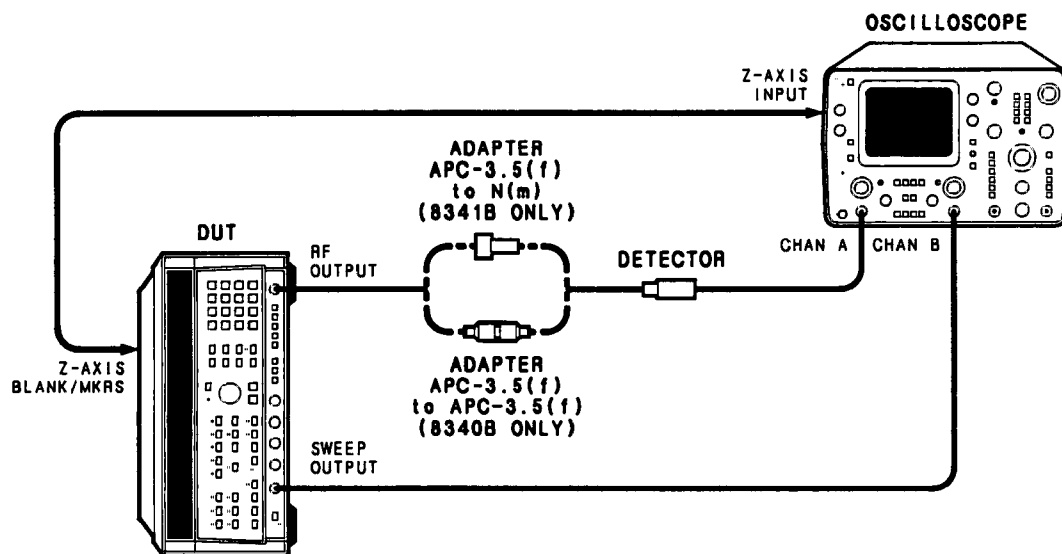

Figure 5-57. Leveled Bias Adjustment Setup, Bands 2 through 4
30. Remove the oscilloscope probes and connect the detector and oscilloscope as shown in Figure 5-57. On the DUT, press [INSTR PRESET] [RECALL] [2]. Press [SWEEP TIME] [AUTO]. Press [SHIFT] [PWR SWP] [-] [2] [0] [dBm].